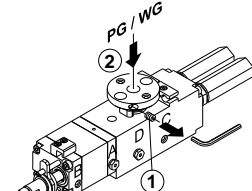

fig 5
**Options (extension - parallel or angle gripper, fig 5)**
- Loosen (pointed) threaded pin (1) on rotary plate. (M4=DM4 / M5=DM5 / M5=DM6)
- Simply attach the module (parallel or angle gripper) (2) with the centering couplings and tighten threaded pins (1) to secure it.